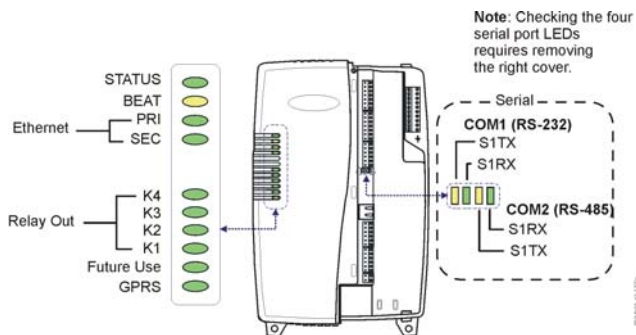

Figure 22: FX22/FX62 LED Descriptions
See Figure 22 for a description of the status LEDs.
The FX22/FX62 has a variety of LEDs, most of which are visible on the left cover. Figure 22 provides the LED locations and descriptions.
LEDs for the two serial ports are located on the supervisory controller's main board, near the Analog Output terminals (Figure 22). Board markings **S1** and **S2** correspond to the software configuration of the COM1 and COM2 ports. LEDs show the transmit (TX) and receive (RX) activity for the two serial ports.